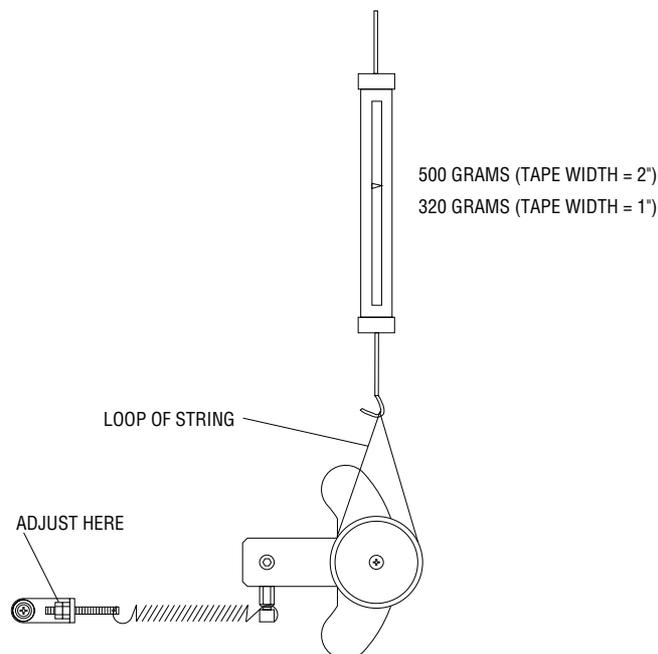

Figure 5-3
2. Pull the spring scale toward the rear of the machine until the tension arm is in the middle of its travel, and measure the spring tension. Refer to **Figure 5-3**.